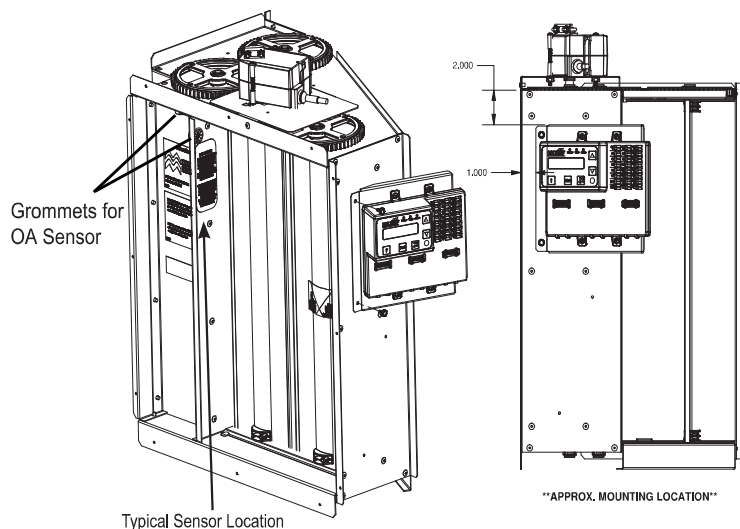

Fig. 5 - Approx. Mounting Location of Belimo ZIP Control
2. Locate and install the Belimo ZIP and Mounting Bracket per **Fig. 5**.
11. In some cases, the OA Temp/Enthalpy Sensor will need to be installed. Install sensor at this time and route appropriate wires. See **Fig. 5** for typical sensor location and Wire Diagram for wiring detail.